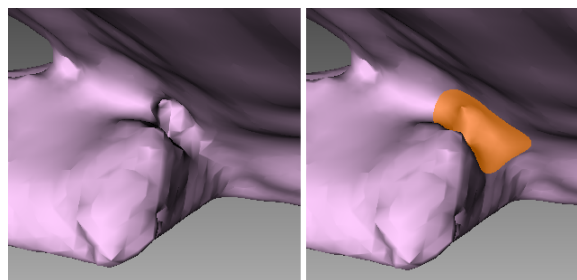

Figure 8.36: Before smoothing (left) and smoothing out a poorly captured area (right).
6. Hold **LMB** and paint the surface region in order to smooth it. The tool will smooth the affected areas (see Figure 8.36, right).